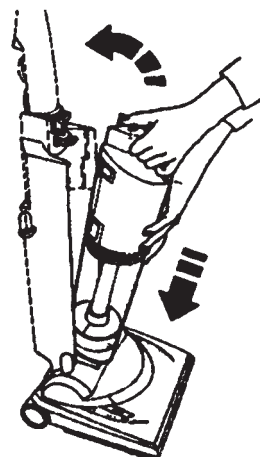

Figure 13d
4. Insert the reassembled Collection Bin bottom-first into the Storage Compartment. (See Figure 13d.)